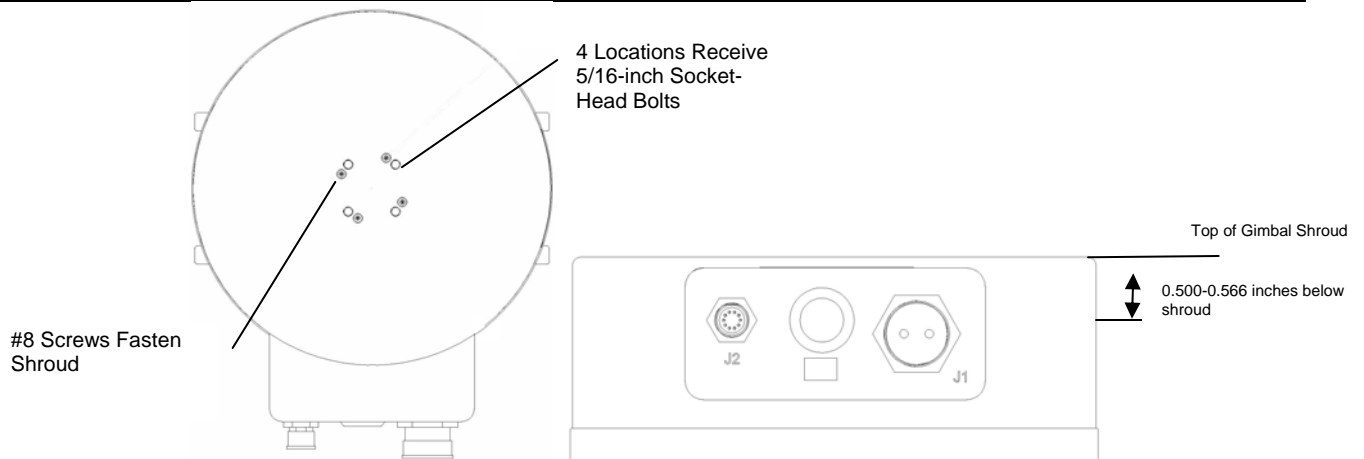

Figure 12 Top and Side View of Gimbal Shroud
For applications where Spectrolab dovetail is not used, #8 screws hold the shroud in place and are meant for anti-rotation. For mounting purposes, 4- 5/16th-inch -24 UNF locations are provided to attach the customer-provided mounting fixture. When mounting the unit, the four (4) 5/16th-inch -24 UNF bolts shall penetrate a minimum of 0.500 inches and a maximum of 0.5625 inches from the top of the Gimbal shroud (Figure 12).